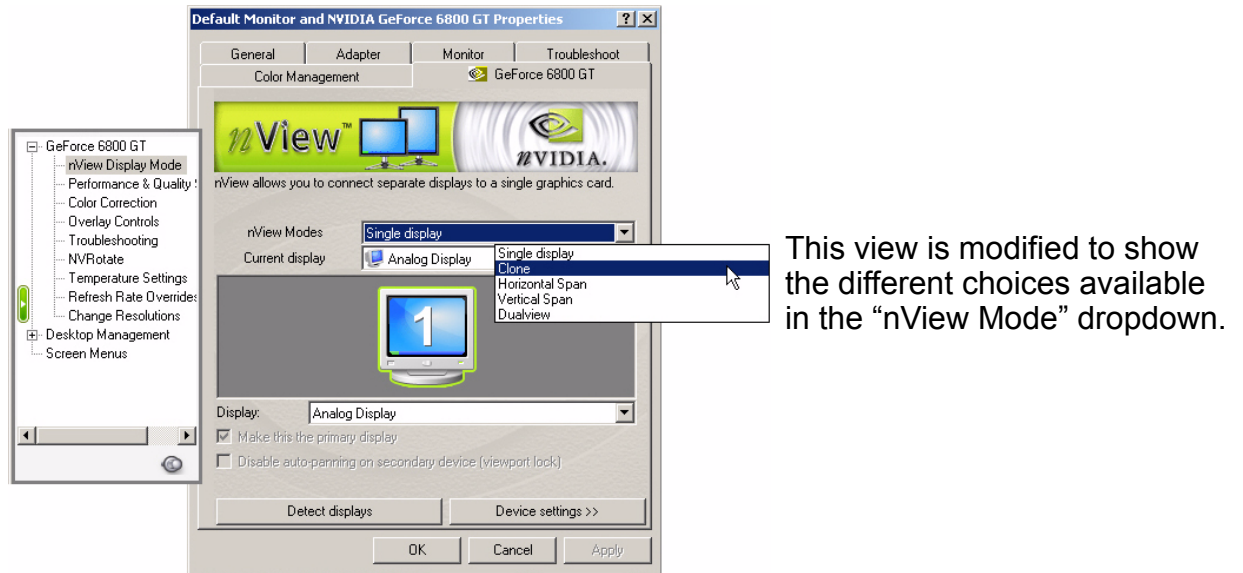

Figure 5-5. Option for "cloning" VGA display on TV monitor
8. In the submenu, click on **nView Display Mode**. The menu changes as shown in **Figure 5-5**.